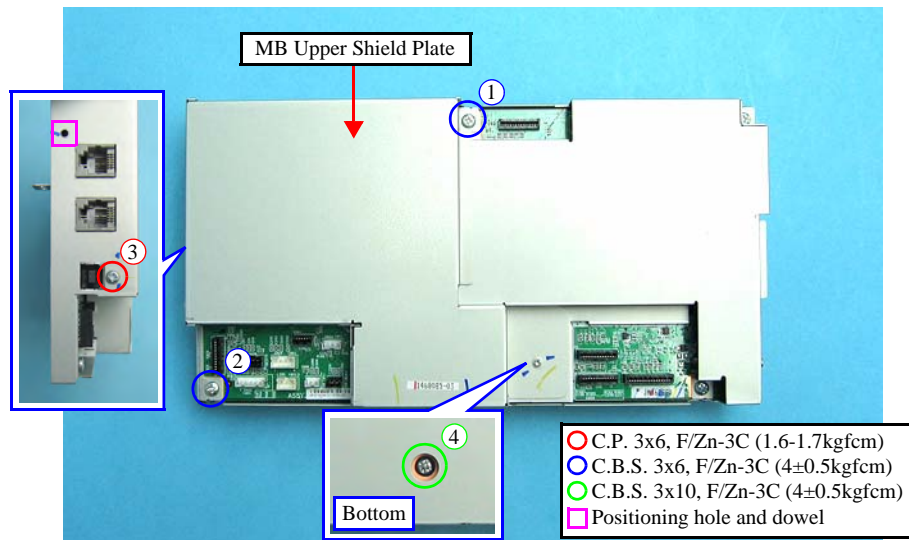
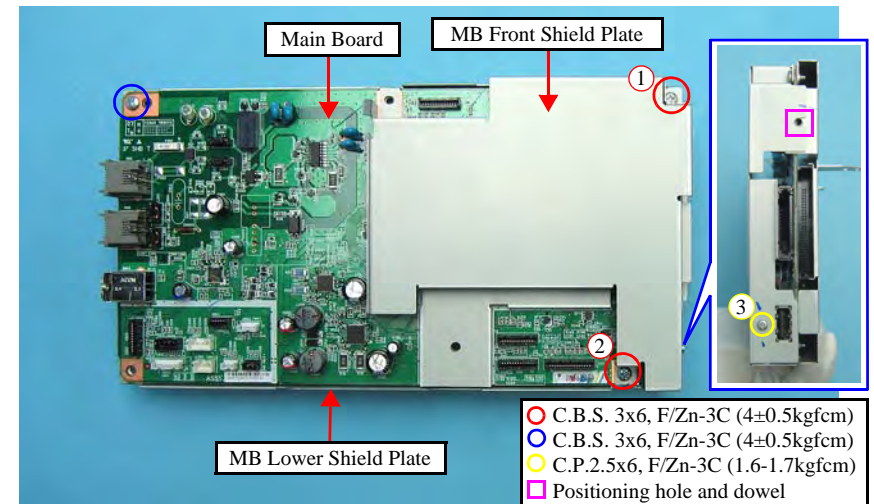

Figure 4-18. Removing the MB Upper Shield Plate
Figure 4-19. Removing the Main Board
- When reassembling the Main Board Unit, make sure to match the positioning holes to the dowels (x2) as shown in Figure 4-18 and Figure 4-19.
- When installing the MB Upper Shield Plate and MB Front Shield Plate, tighten the screws in the order given in Figure 4-18 and Figure 4-19.